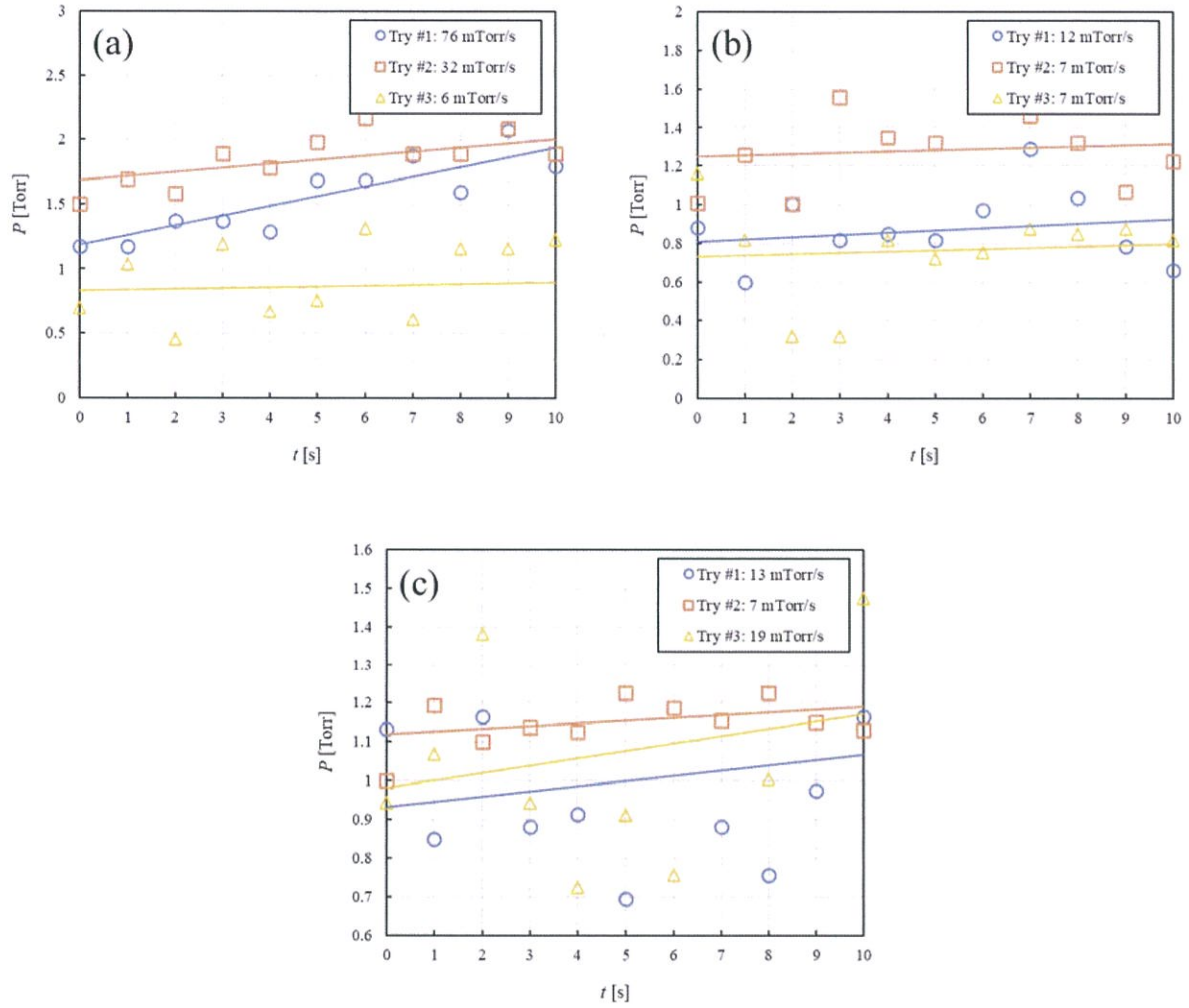

Figure 3.1 Pressure rising after closing the solenoid valve (SV) for (a) Lumen #1, (b) Lumen #2, and (c) Lumen #3.
- (7) All the data were recorded and plotted in Figure 3.1 and Figure 3.2.